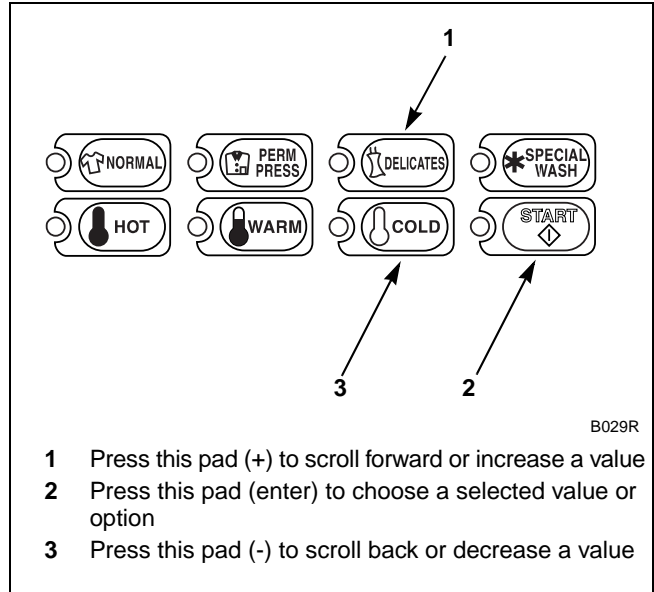

Figure 55
5. Press the DELICATES (+) or the COLD (-) keypad to increase or decrease the end month to the desired month. Refer to *Figure 55*.